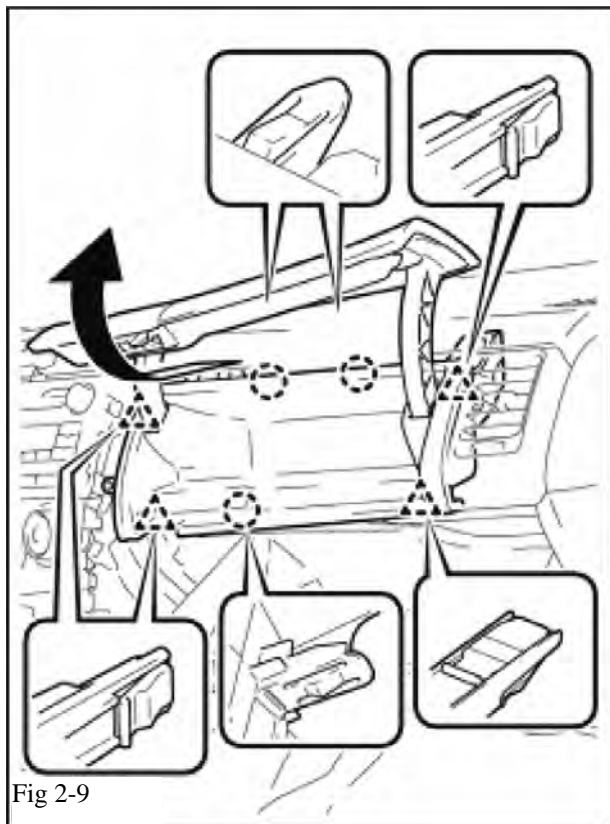

Fig 2-9
- (2) Carefully pull upward and out to disengage the three (3) claws and four (4) clips, and then remove the upper glove box assembly. (Fig. 2-9)